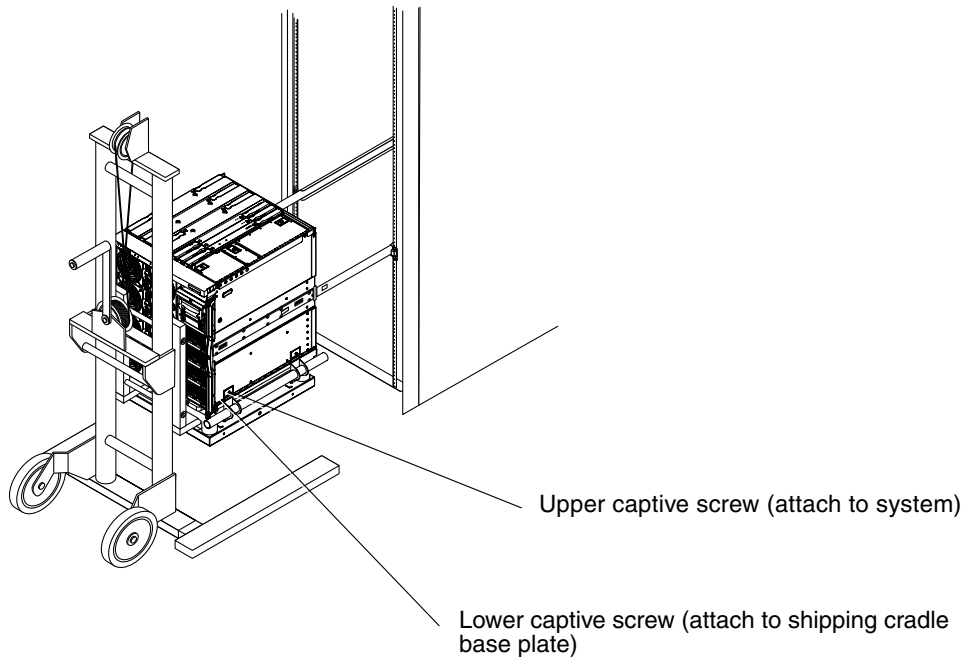

FIGURE 3-9 Securing the Captive Screws
8. Slide the shipping cradle handles inward until they contact the sides of the system. Tighten all eight captive screws (FIGURE 3-9).
5. With the lifting device supporting the weight of the system, raise the system until it is level with the outer slides on the cabinet (FIGURE 3-9).
6. Carefully move the lifting device forward until the slides on the system are fully engaged with the outer slides on the cabinet (FIGURE 3-9).
7. With the lifting device still supporting the weight of the system, loosen all eight captive screws (FIGURE 3-9).